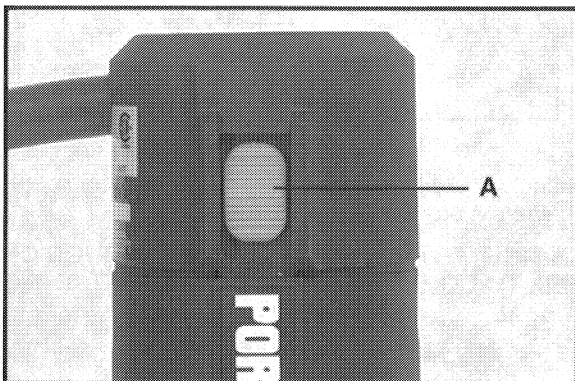

Fig. 1
When the switch actuator (A) Fig. 1, is in the upper position the switch is "OFF". When the actuator is in the lower position the switch is "ON".